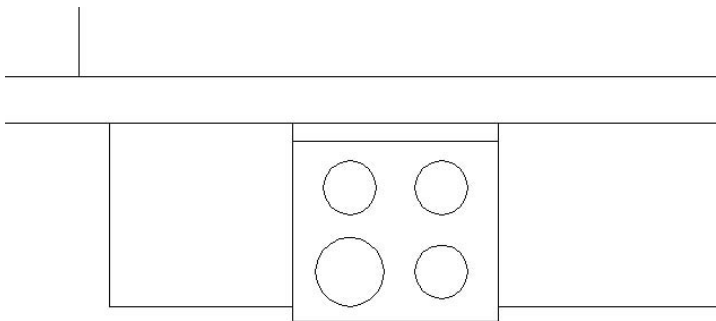

FIGURE 5.23: The completed stove
10. Erase the guidelines, and the stove is completed (see Figure 5.23). Zoom Previous to see the whole kitchen with the completed stove.